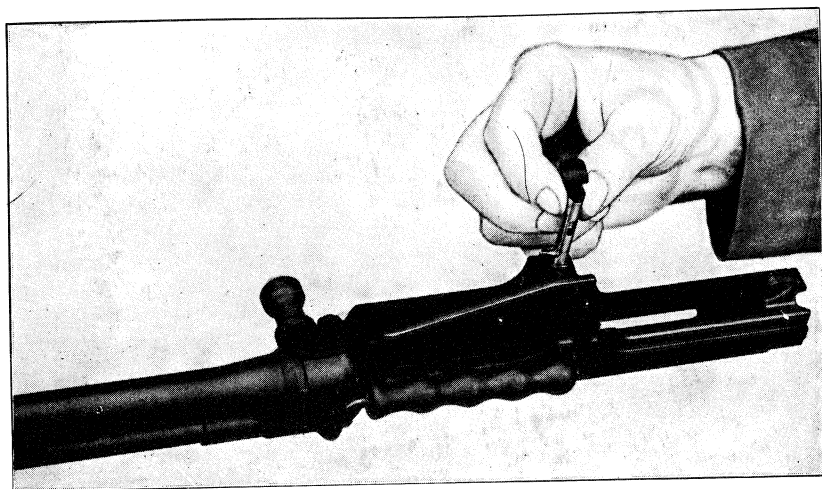

Fig.84
b) **Bolt catch.** — Remove bolt catch from its housing (fig. 84)